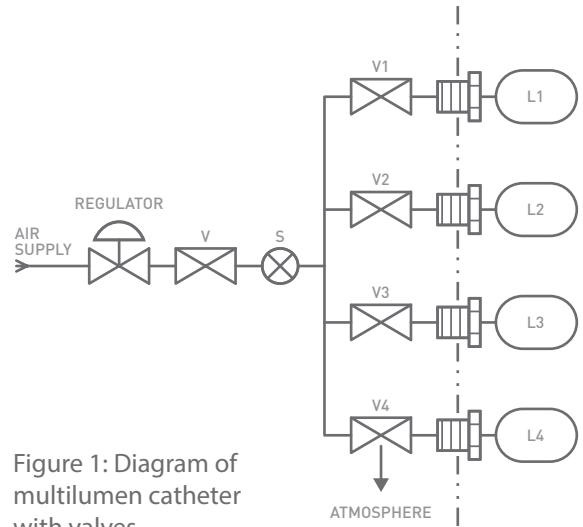

Figure 1: Diagram of multilumen catheter with valves.
1. Product is attached to each test port (Figure 1). Isaac's test program is started.
To leak test a finished catheter, the opening in the distal end is typically closed off with an external sealing fixture. The catheter can then be checked for interlumen leaks. Please see Figure 1.